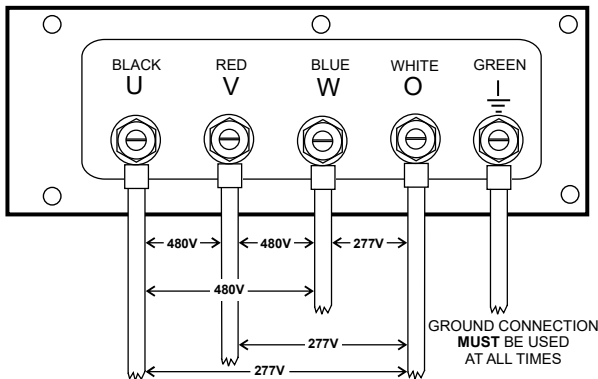

**Figure 19. UVWO Terminal Lugs
2. Connect the load wires to the **UVWO terminal lugs** as shown in Figure 19.